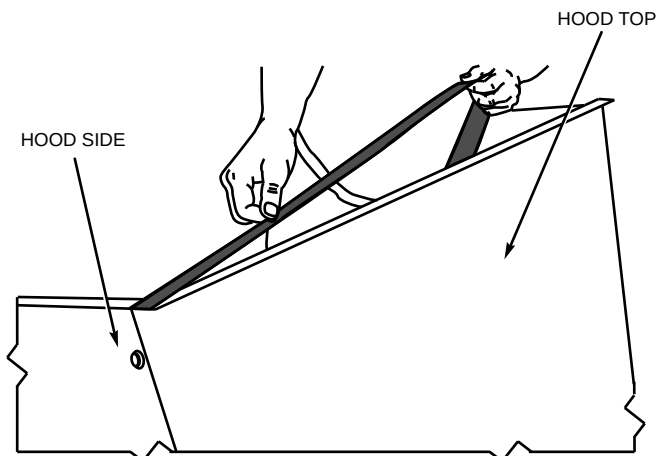

Fig. 21 — Adding Seal Strip to Hood Top Mounting Flange
5. Apply black seal strip (provided) to hood top mounting flange. Seal strip of hood top mounting flange must press tightly against seal strip of hood side mounting flanges. See Fig. 21.